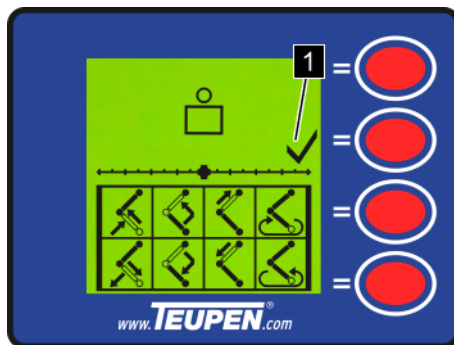

Fig. 135: Working basket transport position
7. → Continue to swivel the working basket in the direction of the transport position until the transport position is shown on display screen with a tick (Fig. 135/1).